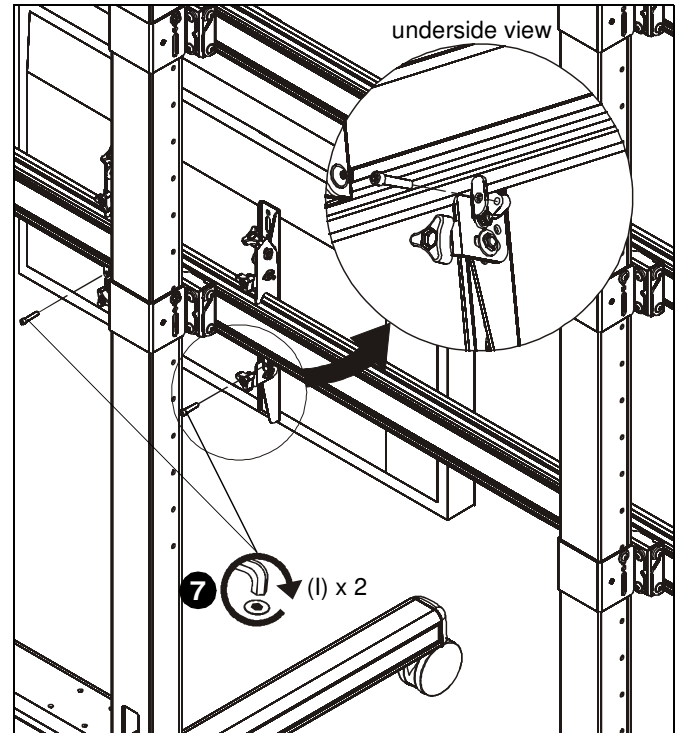

Figure 19
7. Use 1/4-20 x 1 1/4" socket head cap screws (I) to secure interface brackets (AA and BB) to rails for each display. Screws must engage through both holes to be fully secured. (See Figure 19)